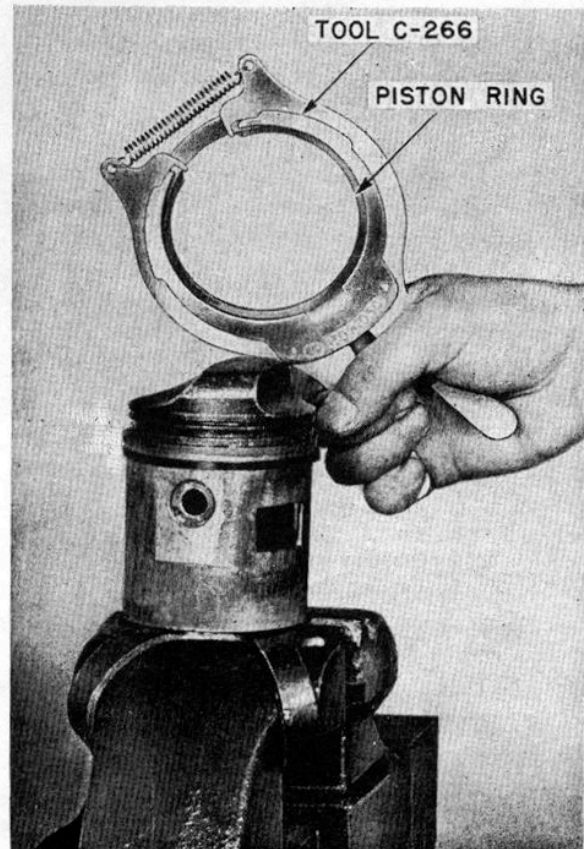

FIG. 11—REMOVING PISTON RINGS
- c. Remove piston rings using tool C-266. (See figure 11.)